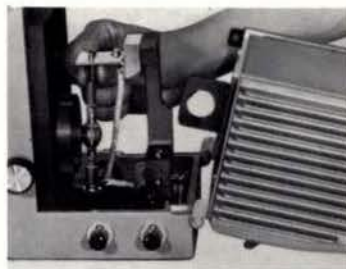

Fig. 6
- 2) Removing the bottom clamping nut ① of the burner, insert the lower electrode (marked “+”) into the bottom terminal and tighten the clamping nut ① securely. (Fig. 6) (The burner with the electrode marked “UP” points upward.)